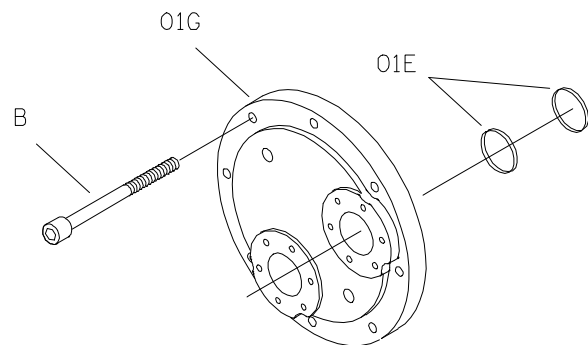

Figure E-3. Typical T Size Head Jacket
If your pump is equipped with an optional head jacket, see Figure E-3 and remove the capscrews (B) securing the head jacket (01G) and O-rings (01E) to the head assembly (01A, Figure E-1). Refer to Jacket Option Appendix H for Inlet and outlet location.